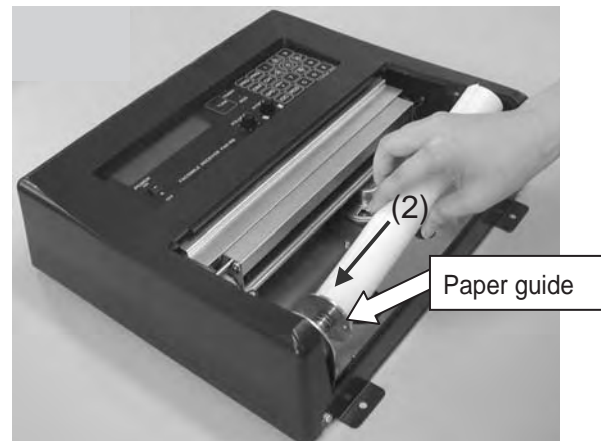

Figure 2
2. While pushing the paper guide (2) in the direction indicated, remove the remaining roll paper. See Figure 2.